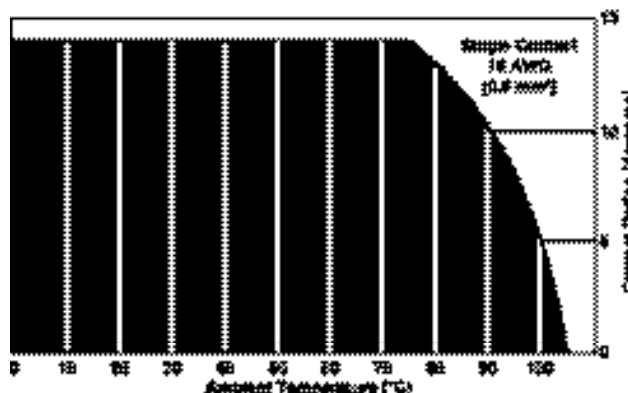

Figure 1
- From Figure 1, the base current rating is 14 ampere with 18 AWG [0.8 mm²] wire.